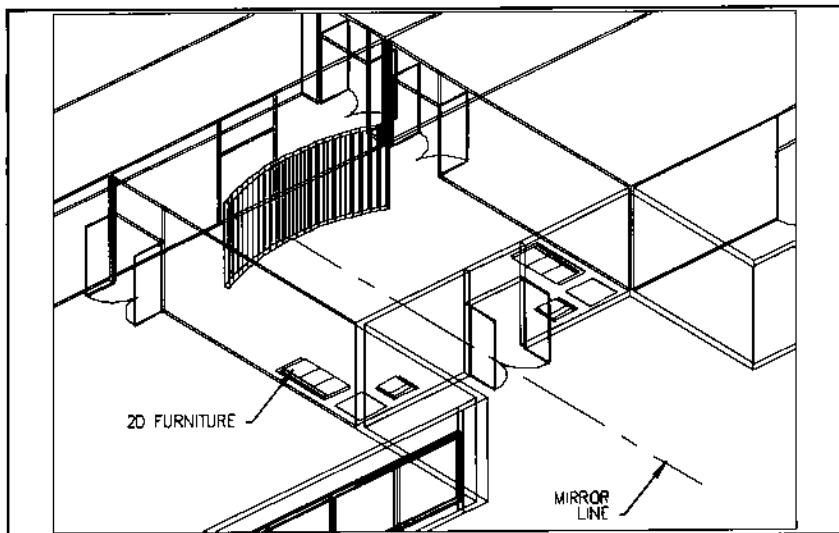

Figure 83.
2. An isometric view of the 2D furniture and mirror centerline is shown in Figure 83.